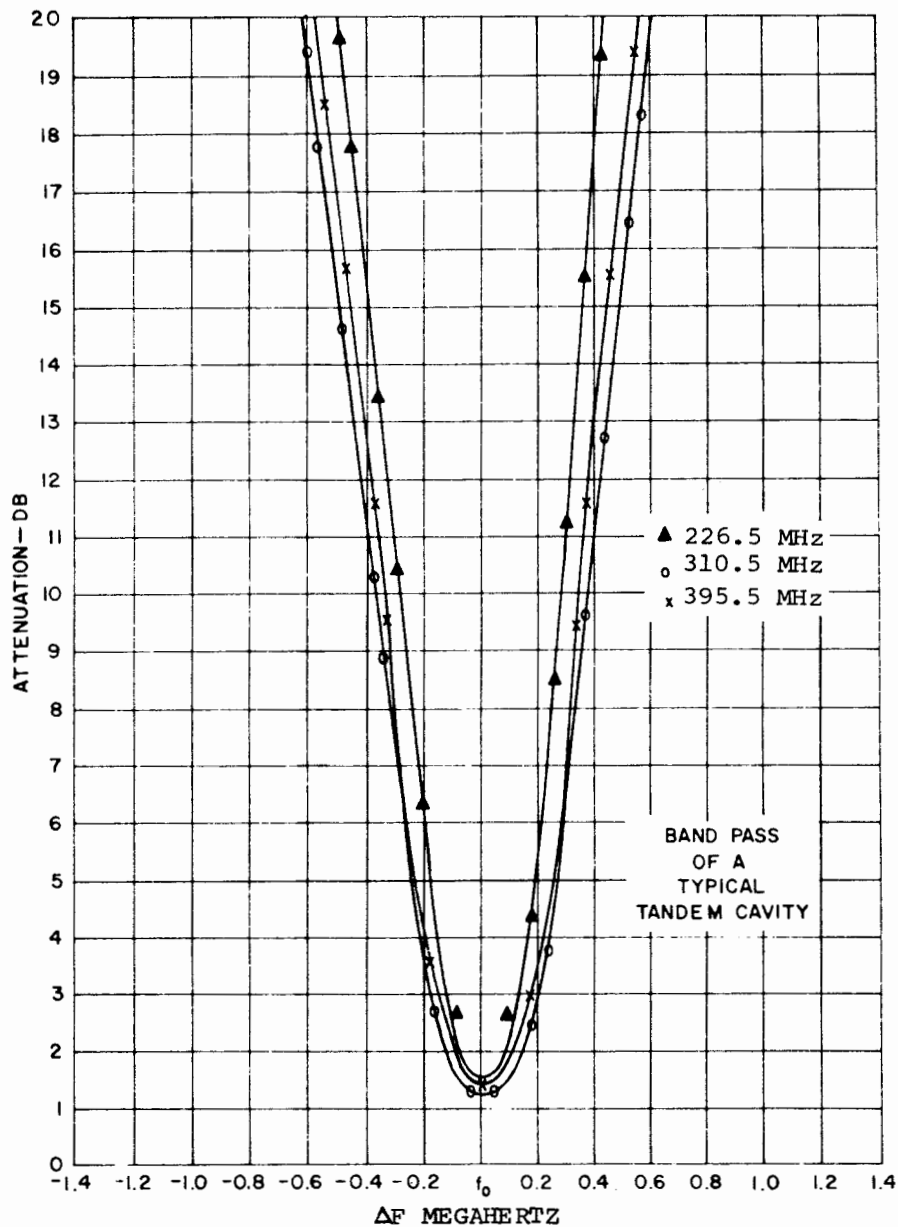

Figure 2-3 Antenna Coupler Group AN/SRA-33
- q. SELECTIVITY. - See Figure 2-3.
- (1) 1.5 MHz channel separation -20 dB.
- (2) 3.0 MHz channel separation -40 dB.
- (3) 10 MHz channel separation -60 dB.